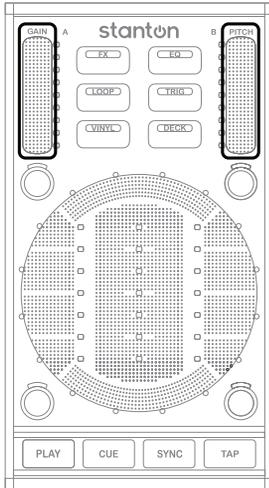

Figure 4.5
4.2.1 Gain/Pitch Sliders (Figure 4.5)